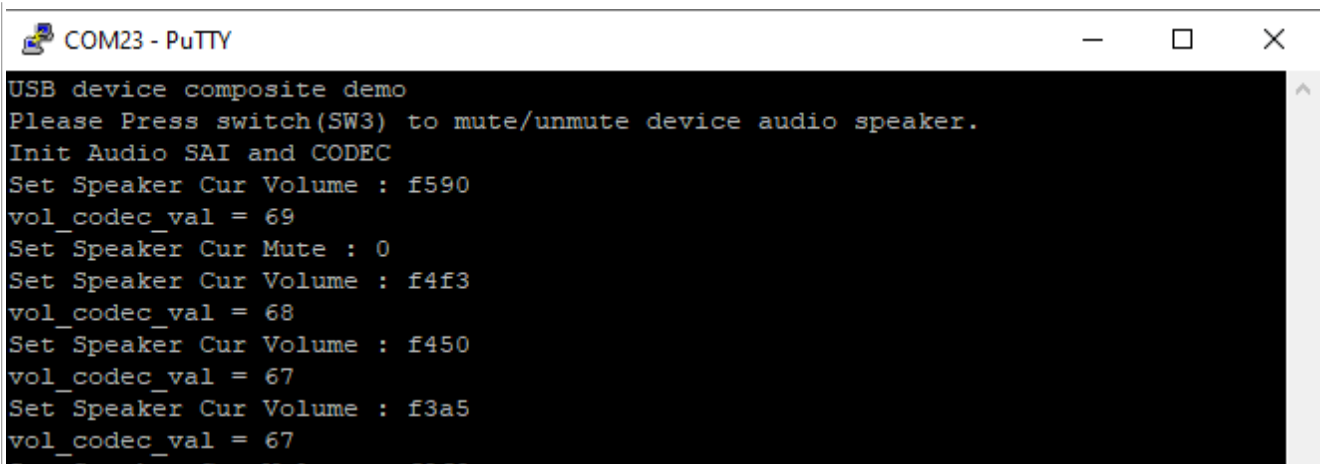

Figure 8. USB host change volume
1. Change the volume on the USB host side (PC). The volume adjustment information is printed on the terminal, as shown in Figure 8.